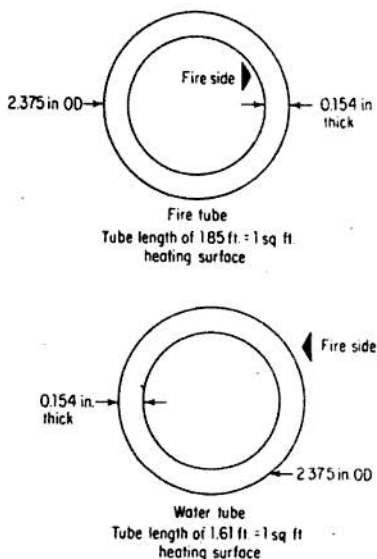

Fig. 4-2. Comparison of tubes of wt and ft boilers.
face. In an ft, the products of combustion are on the inside of the tube; thus the inside diameter (ID) is used in calculating the heating surface. Since the OD is larger than the ID, it is assumed that a wt has a larger heating surface area than an ft (Fig. 4-2).